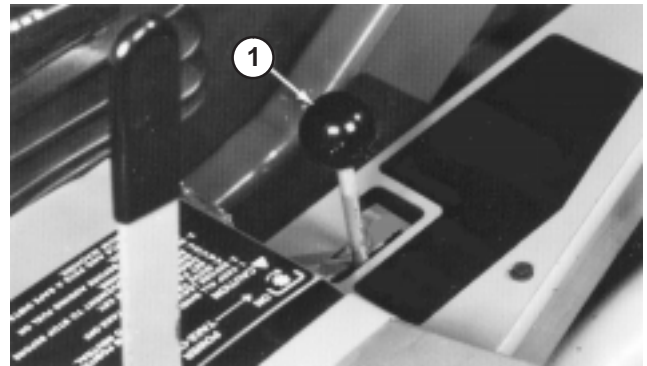
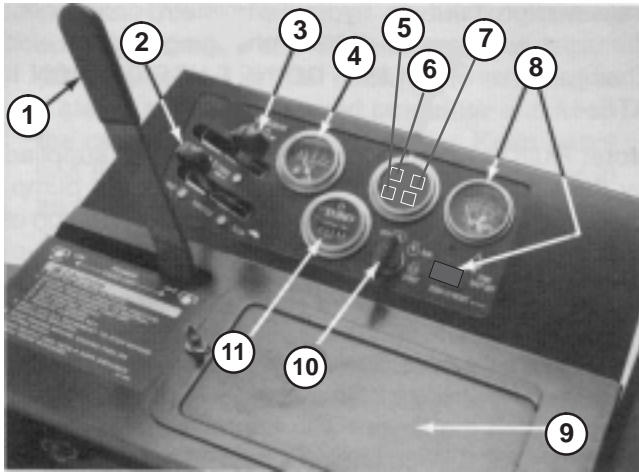

Figure 17
Figure 18
Lift Lever (Fig. 17)—The hydraulic lift lever has three positions: FLOAT, TRANSPORT, and RAISE. To lower implement to the ground, move lift lever forward into detent, which is the FLOAT position. The FLOAT position is used for operation and also when machine is not in operation. To raise implement, pull lift lever backward to the RAISE position. After implement is raised, allow lift lever to move to the TRANSPORT position. Normally, implement should be raised when driving from one work area to another, except when descending steep slopes.
PTO Lever (Fig. 18) – The PTO lever has two positions: ON (engage) and OFF (disengage). Slowly push PTO lever fully forward to ON position to start the implement or cutting unit blades. Slowly, pull lever backward to OFF position to stop implement operation. The only time PTO lever should be in the ON position is when implement or cutting unit is down in operating position.
Hour Meter (Fig. 18) – The hour meter registers accumulated hours of engine operation. Use the hour meter to determine intervals for service maintenance and lubrication.
Fuel Gauge (Fig. 18) – Indicates quantity of fuel remaining in fuel tank.
Engine Oil Pressure Warning Light (Fig. 18) – Indicates dangerously low engine oil pressure.
Engine Coolant Temperature Warning Light (Fig. 18) – The light illuminates and engine shuts down when coolant reaches a dangerously high temperature.
Charge Indicator (Fig. 18) – Illuminates when system charging circuit malfunctions.
Temperature Gauge and Reset Switch (Fig. 18) – The temperature gauge registers the temperature of the coolant in the cooling system. If temperature of coolant gets too high the engine will shut off automatically. When this happens, rotate ignition key to OFF. Automatic shut-off of the engine usually results from debris on front of screen or radiator, which reduces air flow. After cleaning outside of screen and radiator or repairing some other damage, press the reset button and start the engine.
Ignition Switch (Fig. 18) – The key switch, which is used to start and stop the engine, has three position: OFF, RUN, and START. Rotate key clockwise to the START position to engage starter motor. When engine starts, release key and it will move automatically to the ON position. To shut engine off, rotate key counterclockwise to the OFF position.
Choke (Fig. 18) – To start a cold engine, close carburetor choke by moving choke control fully forward. After engine starts, regulate choke to keep engine running smoothly. As soon as possible, open the choke by pulling it backward.
Throttle Control (Fig. 18) – Throttle is used to operate engine at various speeds. Moving throttle forward increases engine speed—FAST; backward decreases engine speed—SLOW. The throttle regulates the speed of the cutter blades or other implement components and, in conjunction with traction pedal, controls ground speed of the traction unit.
1. Ensure parking brake is set, PTO lever is in OFF position (Fig. 18), and lift lever is in TRANSPORT or FLOAT position (Fig. 17). Remove foot from traction pedal and insure it is in neutral.
2. Move throttle control (Fig. 18) to 1/4–1/3 open position.
3. To start engine, move choke lever (Fig. 18) fully forward.
4. Insert key into ignition switch (Fig. 18) and rotate it clockwise to START position. Hold key in START position for a few seconds to energize ignition system. Release key immediately when engine starts and regulate choke to keep engine running smoothly.